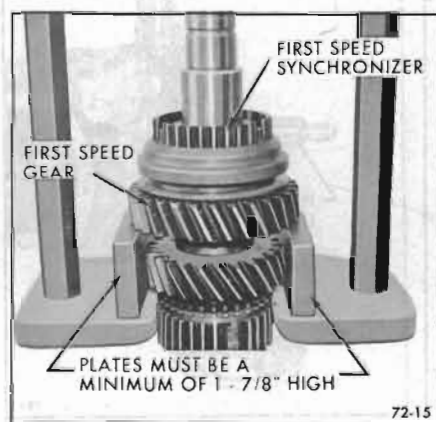

Figure 72-15—Removing First Speed Synchronizer Assembly
6. Support first speed gear on press plate using two (2) pieces of stock 6 x 1-7/8 x 1/4. See Figure 72-15. Remove first speed synchronizer assembly and first speed gear.